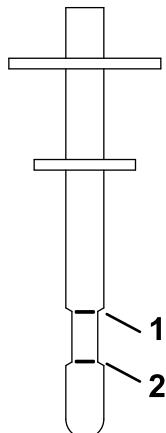

Figure 70
- Place the dipstick into the filler neck, remove it, and check the fluid level (Figure 70).